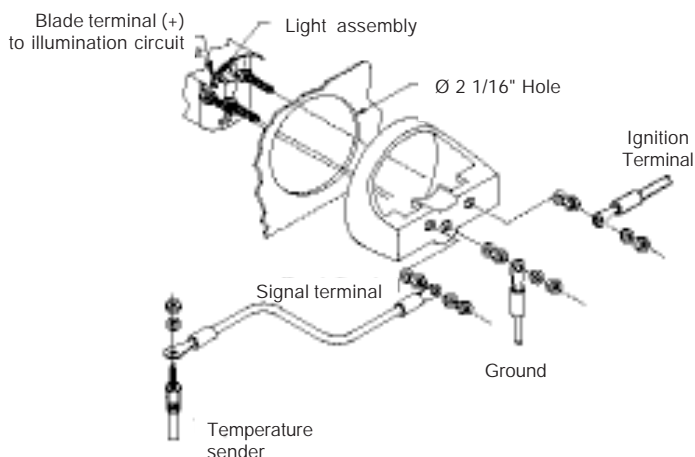

Figure 1
Position gauge in mounting hole. Install mounting bracket, nuts and lock washers in position. (see Fig. 1) Install one
STEP 4. Run a length of wire from the temperature gauge to the sender unit using the wire supplied with the kit. Bare 1/4" of the end of the wire supplied at the sender unit. Install an eyelet terminal supplied with the kit on the end of the wire and crimp it tightly with a pair of pliers. Install the terminal onto the sender unit stud. Install nut on to the stud and tighten securely. Be sure the terminal does not touch the body of the sender. Tape the wire in position so it cannot touch any hot engine components. Be sure that the base of the sending unit is properly grounded. A sending unit installed in a rubber cooler line is not properly grounded. Improper grounding will cause a false reading. Install another eyelet terminal on the end of the temperature gauge wire. Remove the nut and lock washer from the left-hand stud on the temperature gauge (see Figure 1). Install the terminal onto the stud and install lock washer and nut. Tighten nut snugly. DO NOT OVER-TIGHTEN AS THIS COULD DISTORT BRACKET OR DAMAGE GAUGE.
STEP 5. Run a length of wire from the temperature gauge to the ignition switch or fuse block using the wire supplied with the kit. Bare 1/4" of the end of the wire at the temperature gauge. Install an eyelet terminal on the end of the wire and crimp it tightly with a pair of pliers. Remove the nut and lock washer from the right-hand stud on the temperature gauge (see Figure 1). Install the terminal onto
STEP 7. Run a length of wire from the temperature gauge to the dashboard instrument light wires or terminal board. Bare 1/4" of the end of wire at the temperature gauge. Install the female spade connector furnished and crimp tightly with a pair of pliers. Slip connector onto gauge spade terminal (see Figure 1). Tape or fasten all wires up out of the way from heat or any moving parts to prevent damage.